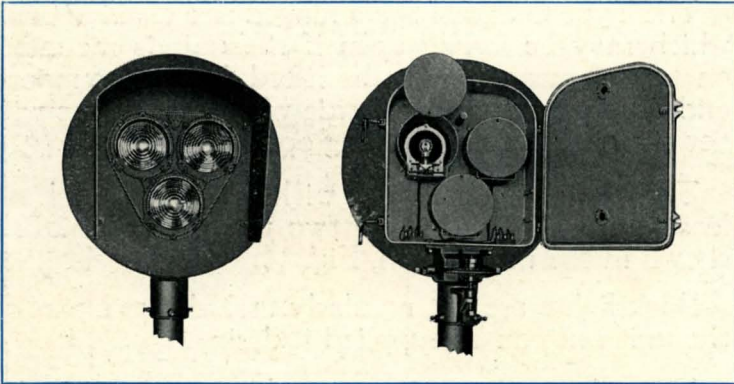

Figure 10 Type G Three-Indication Color-Light Signal Unit
**T**HE compact, triangular arrangement of  $8\frac{3}{8}$ -inch doublet-lens units in this signal makes it comparatively small in size and well suited for use where clearances are limited or where close spacing between signal units on the same mast is desired. The general construction of the Type G Signal Unit is shown in figure 10. The main case for the unit is cast in one piece rectangular in shape, approximately 25 inches wide by 27 inches high. The lamp of each lens unit is completely shielded by an inner sheet-metal case as shown in the rear view, figure 10. A circular background three feet in diameter is regularly supplied on all signal units but this background may be omitted, if desired. A single hood for the three indications is regularly supplied but individual hoods for each lens unit may be furnished, if desired.
The signal is equipped with a sight which is located slightly above the two upper lens units as shown in the illustration, Fig. 10.